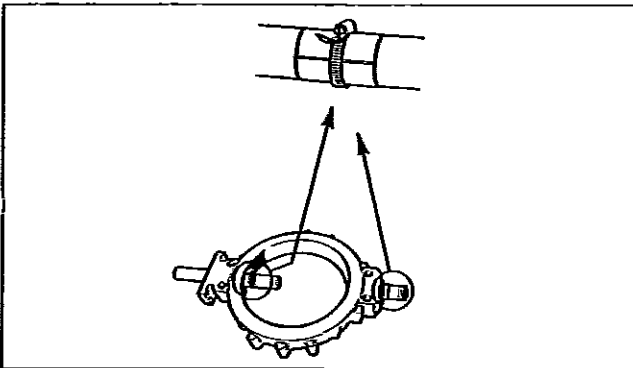

Fig. 16. Mounting the H-construction bearings
- H-construction:** Mount the bearing into the shaft. Spray a thin layer of dry lubricating fluid, e.g. Molykote 321R or equivalent, into the inside surface of the bushing and the shaft bearing groove. Press the bushing with a tightening ring into the shaft bearing groove and fit the shaft with the bearings carefully into the body through the tightening ring (see Fig. 16).